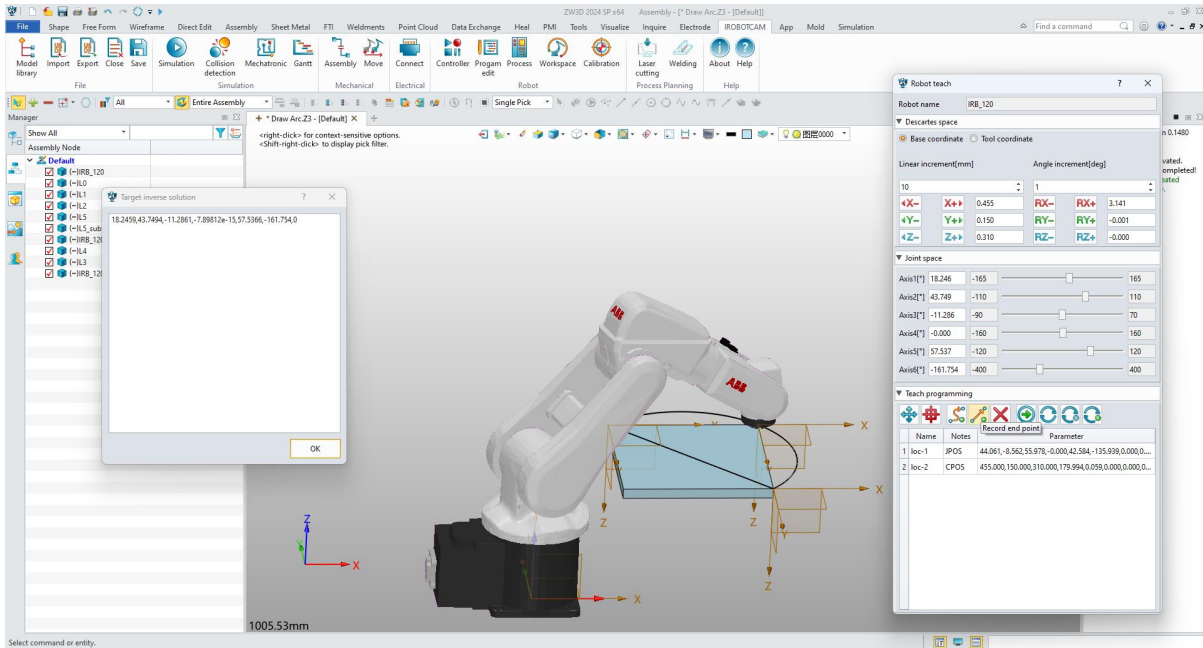

Figure 9-8: Add markings for points 2 and 3
- Record End Point: Click on "Mark Point", Select "CSYS2" and "CSYS3", and click on the "Record End point" button to add a record. (Figure 9-8)